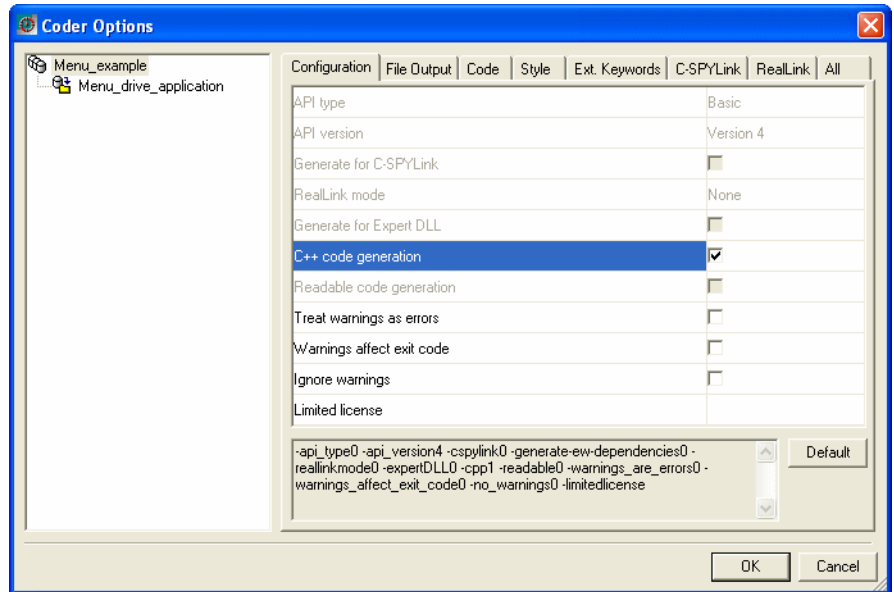

Figure 178: Navigator, Coder Options dialog box, Configuration tab
- On the menu, choose Project>Options>Code generation. The Coder Options dialog box is displayed. See *Figure 178*, page 238.